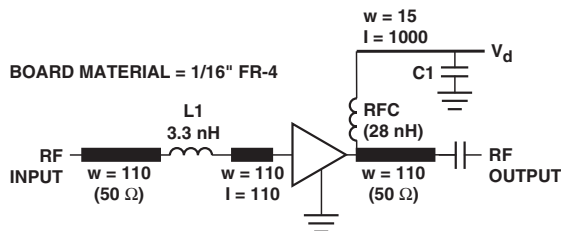

Figure 10. Test Circuit for 2 GHz.
1. Guaranteed specifications are 100% tested in the circuit in Figure 10 in the Applications Information section.
The circuit shown in Figure 10 is used for 100% RF testing of Noise Figure and Gain. The input of this circuit is fixed tuned for a conjugate power match (maximum power transfer, or, minimum Input VSWR) at 2 GHz. Tests in this circuit are used to guarantee the  $NF_{test}$  and  $G_{test}$  parameters shown in the Electrical Specifications Table.